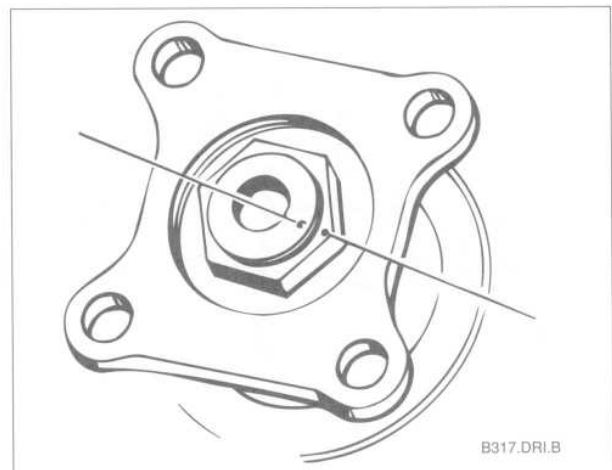

Fig. 5. Make matching marks on input shaft collar nut and flange.
3. Make matching marks on input shaft and input shaft collar nut. See Fig. 5.